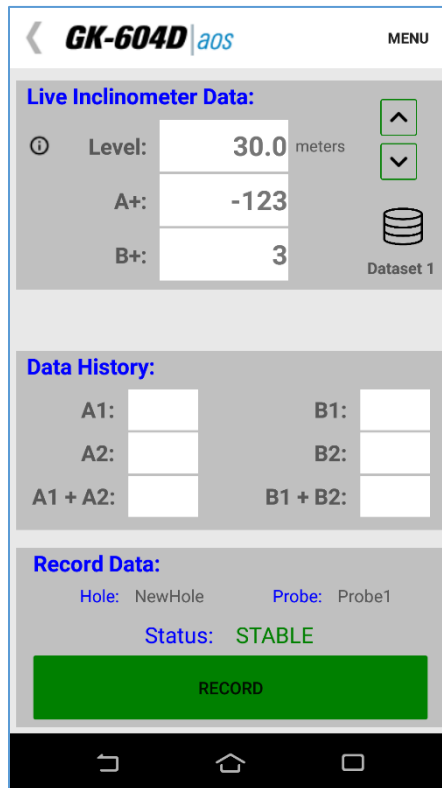

Figure 96 - Live Readings Screen
- 4) Turn on the Android device, turn on the Remote Module (blue light blinking) then launch the GK-604D|aos application. Tap on the “Live Readings” button (from the APP menu) and verify that the Android unit has connected to the probe. The Live Readings screen should be displayed (Figure 96) and inclinometer readings can be observed. Wait until the probe temperature has stabilized and the reading doesn't change.
- 5) Make sure that the dataset indicator in the Live Readings screen (Figure 96) is “Dataset 1”. Take the first reading, pull up on the cable until the next cable marker sits just above the cable grips on the pulley assembly, (or in the cable hold), and, after a short pause, take another reading.